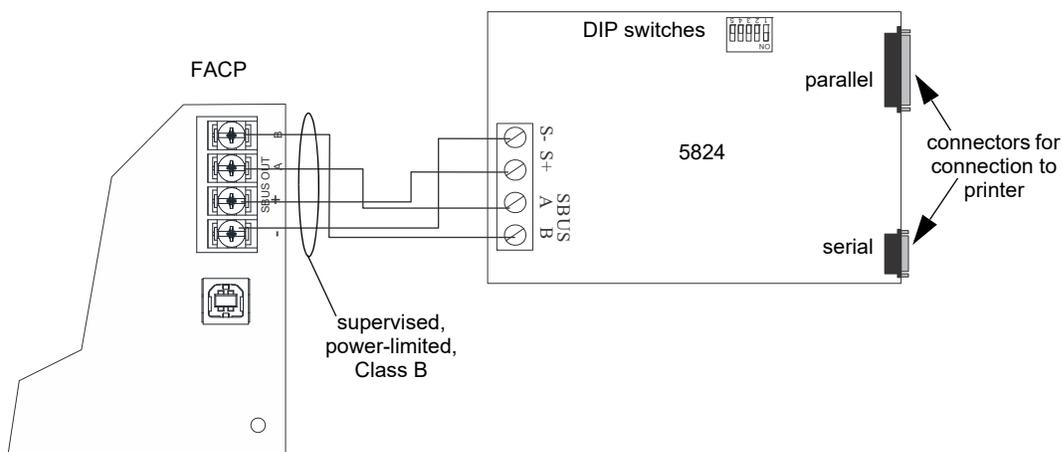

Figure 4.26 5824 Connection to the Panel
2. Connect the 5824 to the panel as shown in Figure 4.26.